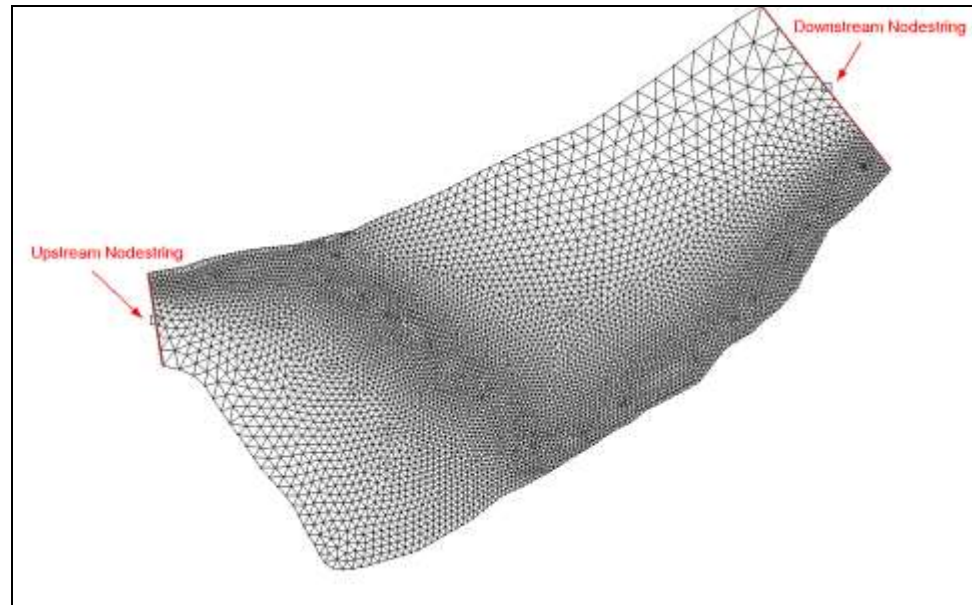

Figure 3 Nodestring locations
2. Using the **Create Nodestring**  tool, create nodestrings at the upstream and downstream boundaries as shown in Figure 3. Include all nodes along the boundary in the nodestrings by holding down the *Shift* key while creating it. Create the nodestring from right to left as if facing downstream.